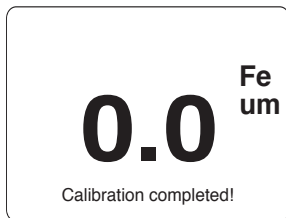

Figure 2
2. Lift up after approximately 2 seconds. Zero will be displayed (as shown in Figure 2).